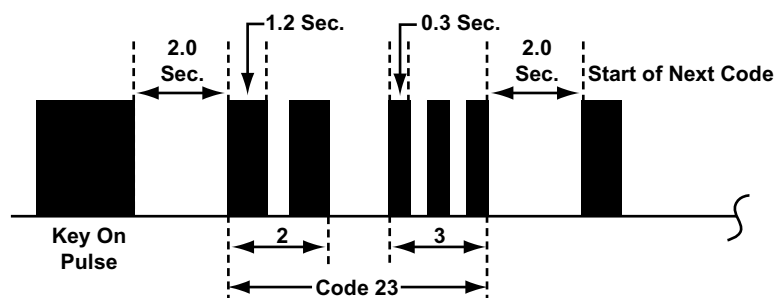

Figure 8-47 Honda SRS Code Type 07
- Type 07, see Figure 8-47 and Table 8-16 on page 88